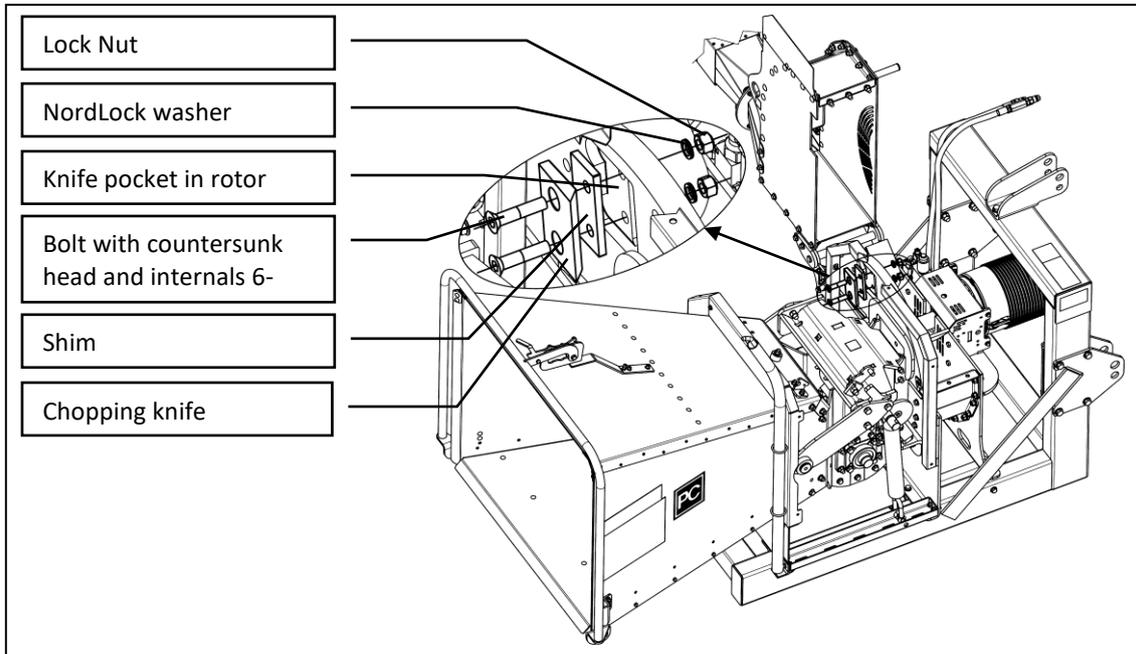

Figure 18
- 3) Hold the shims and knife against the knife pocket and loosely insert the two bolts, attach NordLock washers and loosely screw on lock nuts. The order can be seen at Figure 18.